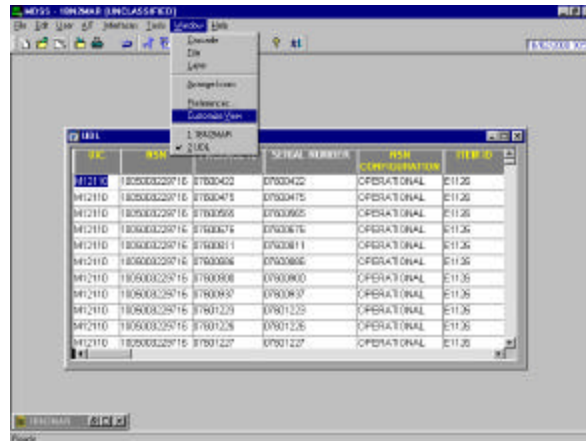

Figure 3
STEP 2 - Select Customize View (see figure 3)